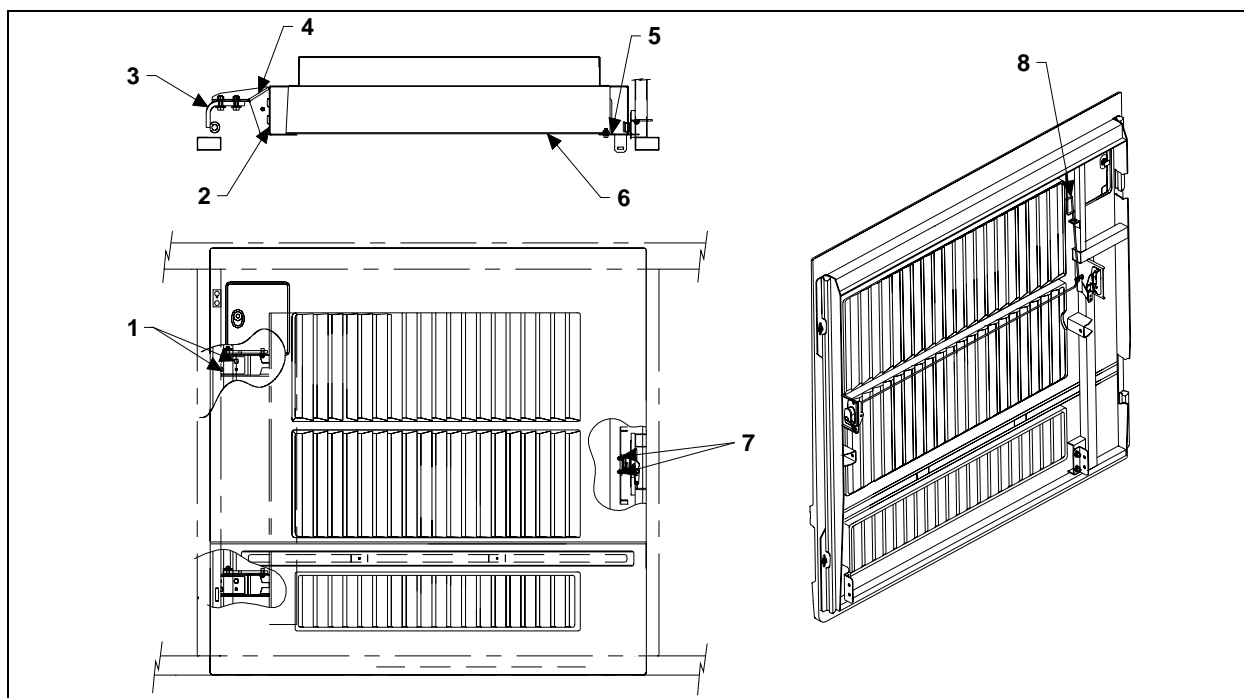

FIGURE 76: CONDENSER DOOR
2. Loosen the nuts (1, Fig. 76) holding the hinge (3, Fig. 70) to hinge attachment (4, Fig. 76). Loosening nuts (1, Fig. 70) allows the condenser assembly to be shifted "LEFT or RIGHT" and "UP or DOWN".
5. Loosen bracket nuts holding the panel to condenser. Panel (6, Fig. 76) may be shifted "IN or OUT", "LEFT or RIGHT" and "UP or DOWN".
6. Adjust condenser panel at brackets (2, Fig. 76) and (5, Fig. 76).